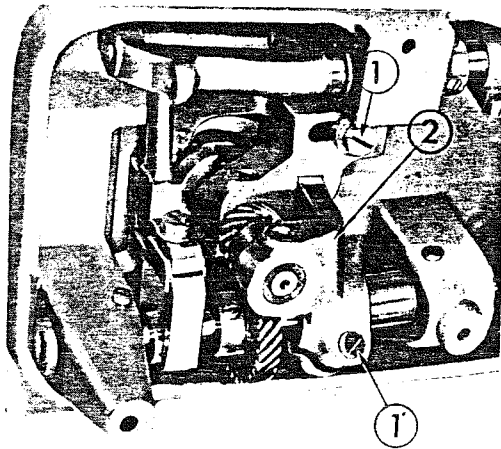

Fig. 21
To prevent the breaking of the upper thread, the blade tip of the sewing hook should be set as closely as possible to the needle. To adjust the clearance between the blade tip of the sewing hook and the needle, first, rotate the hand wheel with your hand until the center of the needle and the blade tip coincide each other. Next, when the 2 screws (Fig. 21 ①, ②) under the bed are loosened, the base of the sewing hook will move to right or left. At this position, try to put them as close as possible without hitting each other and then re-tighten the screws.